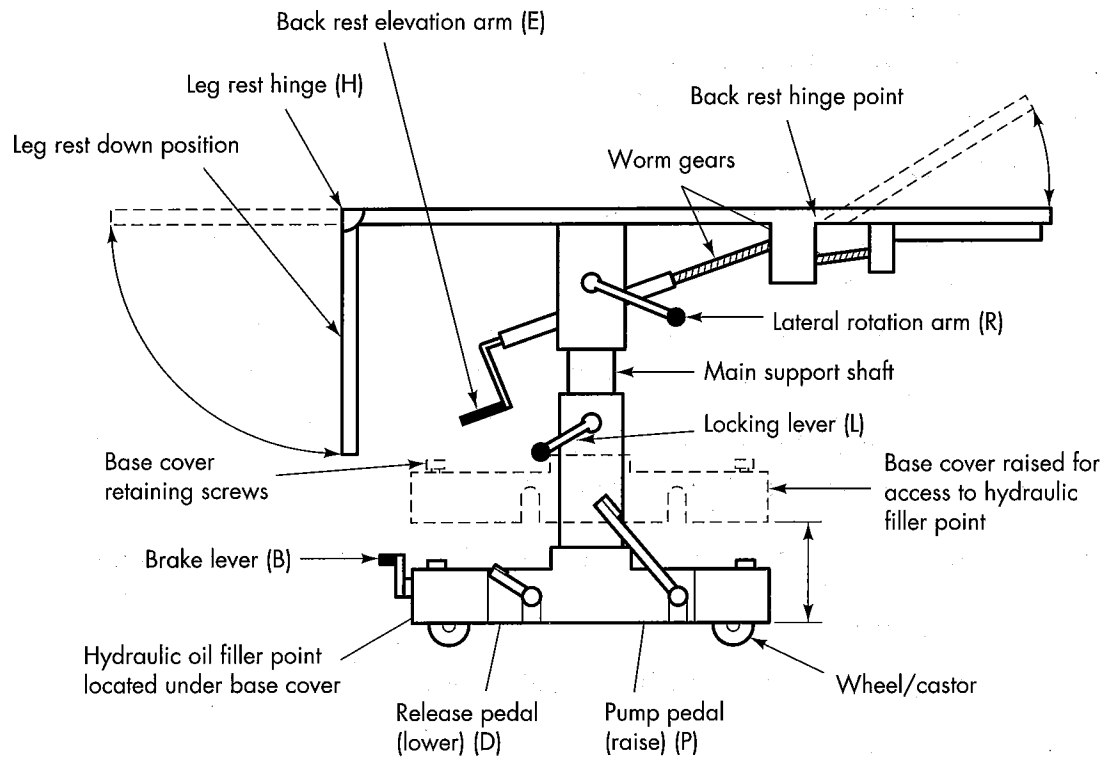

Figure 35: Hydraulic operating table
An operating table has several features which allow the surgical team to position the patient as required (Figure 35).
- check the hydraulic fluid level (Figure 35) and fill if necessary. The filler point is usually beneath the base cover. Remove the four corner screws, lift the table support column, unscrew the filler cap and check that the oil level is near the top. If not, fill up with the specified hydraulic oil or (if not available) car brake fluid.
- extend worm gears and main support shaft (Figure 35)